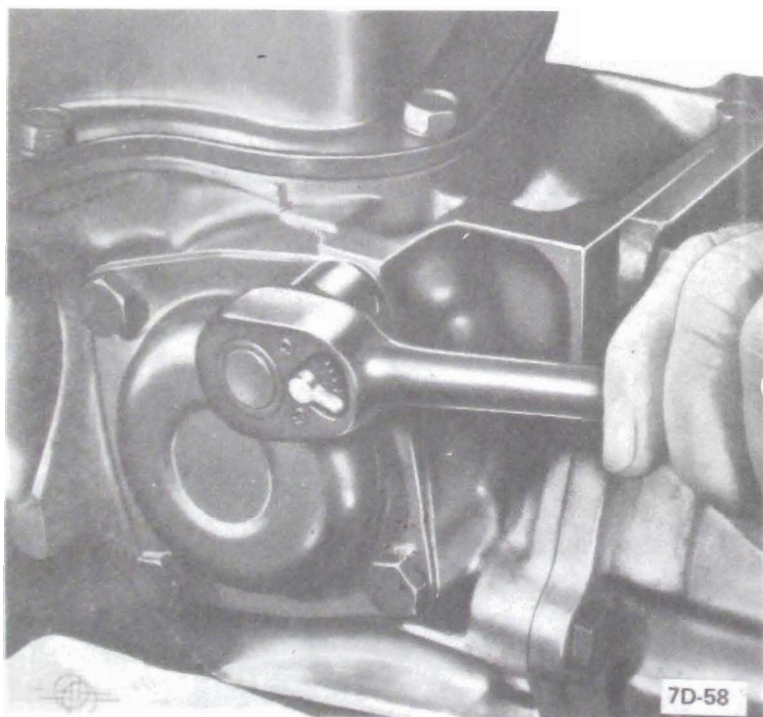

Figure 7D-58
2. Withdraw governor assembly from case. See Figure 7D-59.